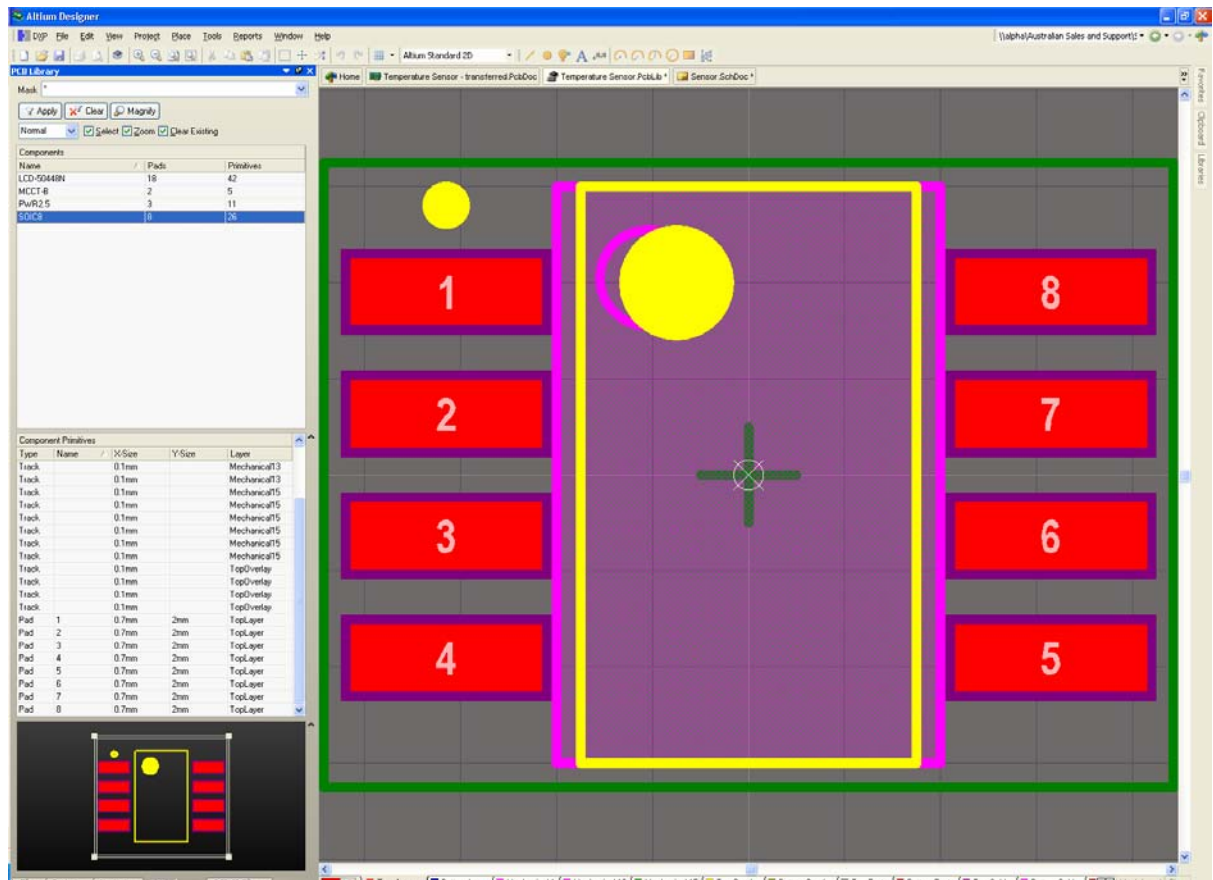

Figure 9. Finished footprint created in the temperature sensor.pcbLib.
14. Click on finish to end the wizard and create the new component as per Figure 9.